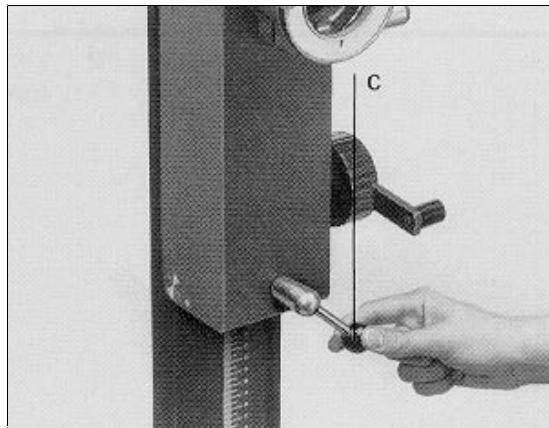

Figure 2-8. Vertical Carriage Locking Lever
- d. Lower the carriage about two more inches, and lock it on the column by tightening the locking lever (c, figure 2-8).